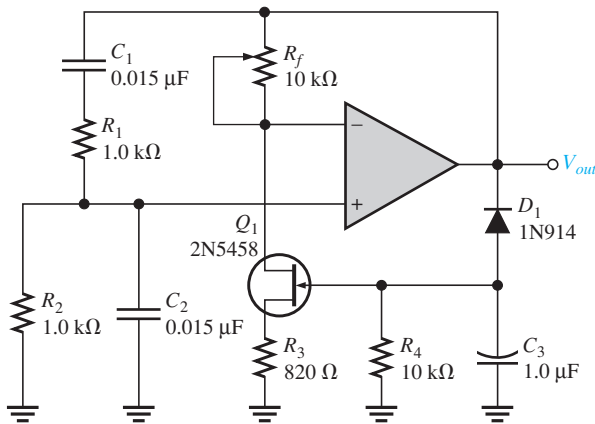

FIGURE 10–49
9. For the Wien-bridge in Figure 10–49, calculate the setting for R_f , assuming the internal drain-source resistance, r'_{ds} , of the JFET is $350\ \Omega$ when oscillations are stable.
10. Find the frequency of oscillation for the Wien-bridge oscillator in Figure 10–49.